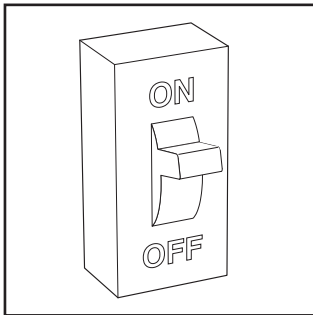

Fig. 13 - Turn on Electrical Supply
8. Turn ON the electrical supply to the furnace and wait 1 minute. (See Fig. 13.)